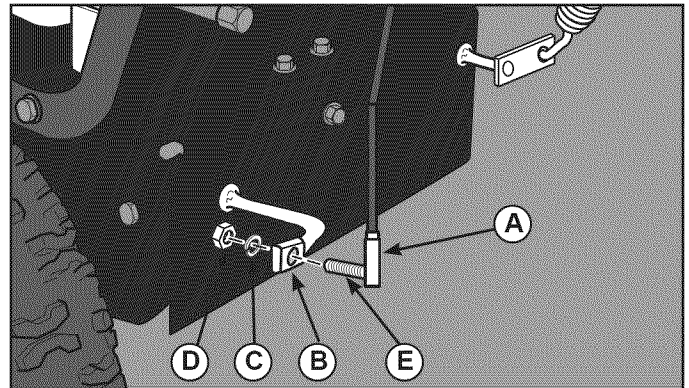

Figure 7. Connect Shift Rod
1. Connect shift rod (A, Figure 7) to shift lever (B) and secure with lock washer (C) and 5/16 lock nut (D). Tighten lock nut with a 1/2" wrench while preventing stud (E) from turning with a 7/16" wrench.